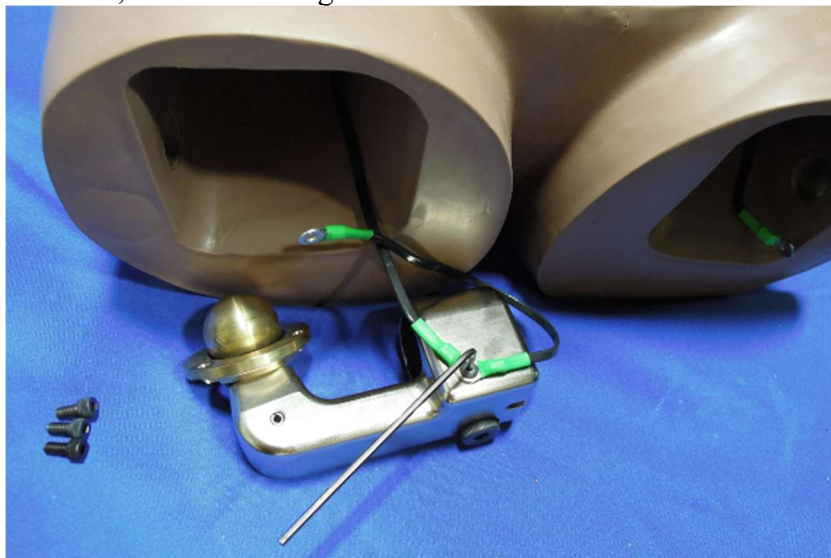

Figure 8-55. Attach the ground cables to the Femur Assemblies
8.3.24 Attach the ground cable from the center pelvic bone to the left and right Femur Assemblies (474-4700-1,2). Attach the Upper Leg Ground cable to the same location, as shown in Figure 8-55.